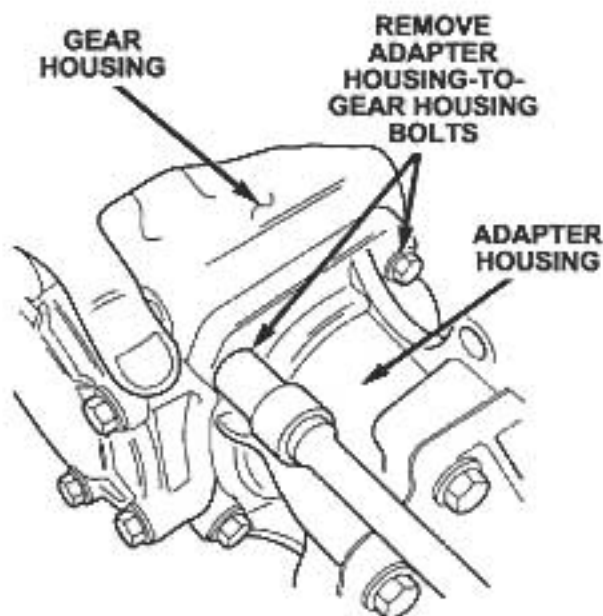

Figure 5
15. Remove the bolts that secure the transfer case gear housing to the adapter housing (Figure 5).